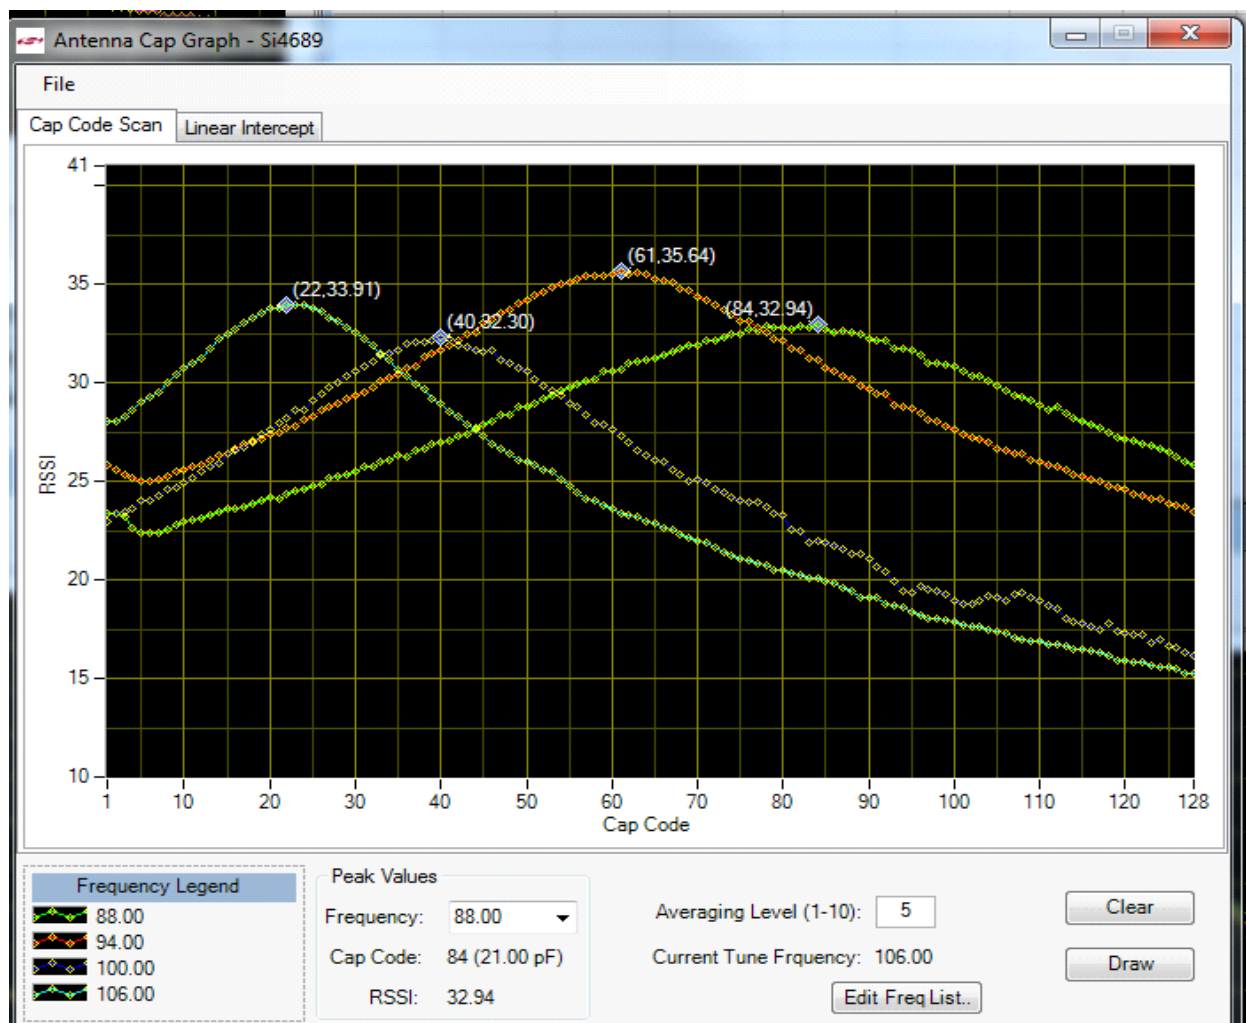

Figure 16. GUI Antenna Cap Graph for FM
Skyworks Solutions recommends using its EVB and the GUI to optimize the front end for a given antenna type and the cable length. The GUI has an antenna graph function, shown in Figure 16, which exercises the internal varactor capacitor across its range (1–128 counts) for finding the capacitance required to form resonance at a given frequency.
1. Initially use the Skyworks Solutions-recommended values for C1 (33pf) and L1 (56nh) shown in Figure 16.